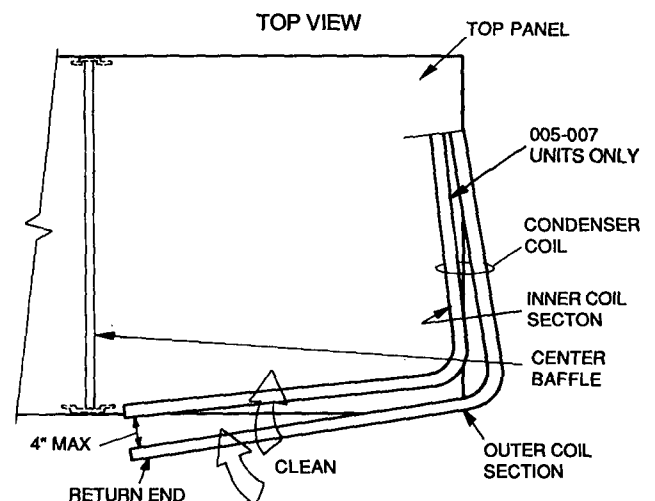

Fig. 27 — Separating Coil Sections
4. Remove device holding coil sections together at return end of condenser coil. Carefully separate the outer coil section 3 to 4 in. from the inner coil section. See Fig. 27.